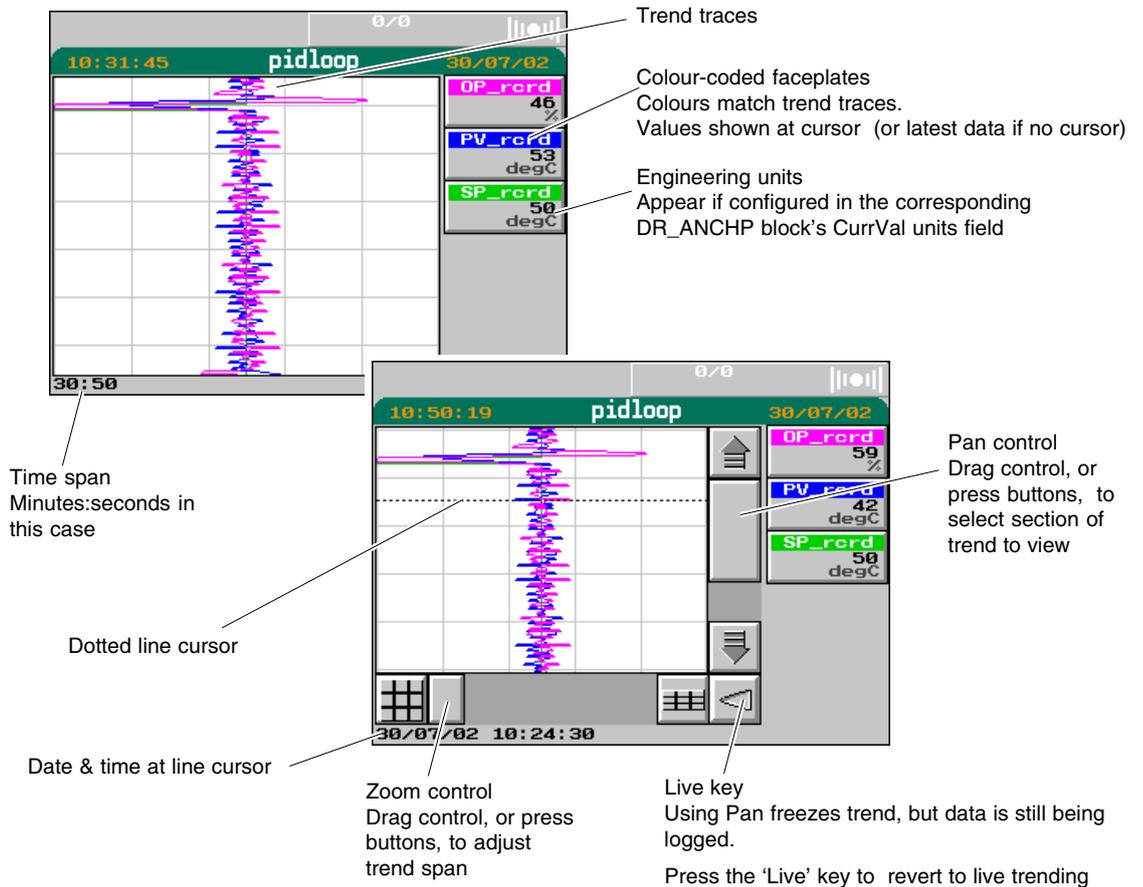

Figure 2-4 Vertical trend with faceplates
- 1 Access the vertical trend (press the **Down** key as needed). Note that latest data is at the top, and the display span in mins:secs, hrs:mins, or days-hrs is shown at the bottom-left of the trend. See Figure 2-4, top left.
- 3 Press the **Option** key to pop up the available options, then press the **VIEW** option. **Zoom** and **Pan** controls appear below and to the side of the trend, respectively (Figure 2-4).